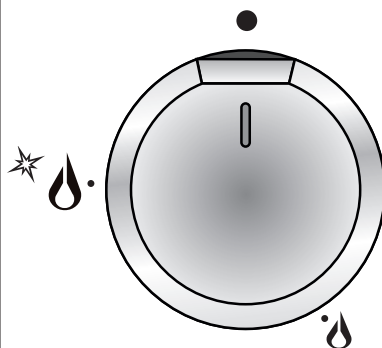

Fig. 2.1
Gas flow to the burners is adjusted by turning the knobs (illustrated in fig. 2.1) which control the safety valves.
- 1. Press in the corresponding knob and turn counter-clockwise (fig. 2.2) to the full flame position marked by the  symbol (fig. 2.1); hold the knob in until the flame has been lit. In the case of a mains failure light the burner with a match or lighted taper.